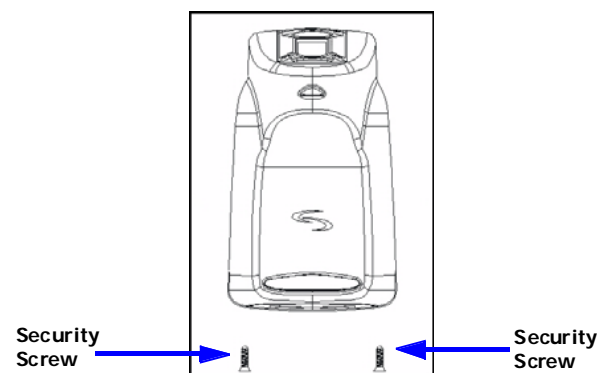

Figure C-6 Secure the Terminal to the Mounting Plate
13. Secure the terminal to the mounting plate by screwing the two security screws to the bottom of the terminal, an example of which is shown in **Figure C-6**.